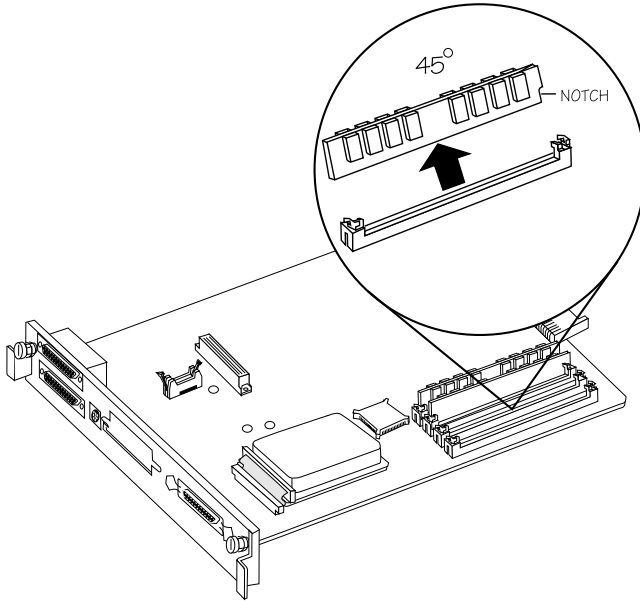

Fig. 8.14 Tilt the SIMM Back and Remove It
5. Tilt the SIMM back to a 45° angle and slide it up and out of the connector (fig. 8.14).